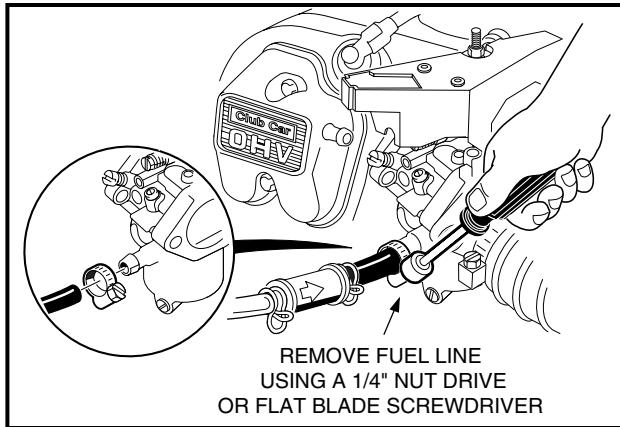

FIGURE 10-13
- 2.4. Use a 1/4" nut driver to loosen the hose clamp and then disconnect the fuel line from the carburetor (**Figure 10-13**). To prevent spilling of fuel, the disconnected end of the line can be pushed onto the impulse nipple of the fuel pump.